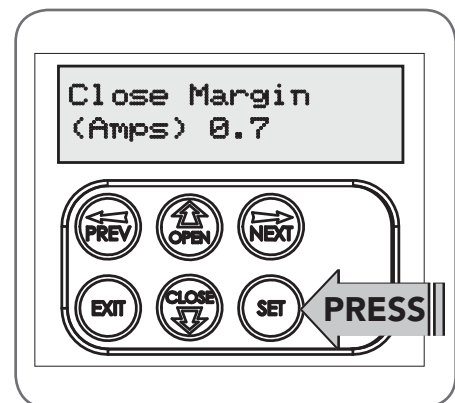

Fig 9.3
- MENU 2.1: CLOSE Margin is displayed (Fig. 9.3).
- Reprofiling is a simplified way of re-learning the travel characteristic of a previously setup Limit Switch travel installation. Re-profiling can be used when the travel characteristics of the gate changes due to mechanical adjustments etc. To initiate a re-profile, simply locate “MENU 10.2 Reprofile Travel”, press SET and follow the prompts. The gate will start to move and re-calculate force margins. The gate can move between the open and close limit positions up to two (2) times (depending on the position of the gate and the power up condition).